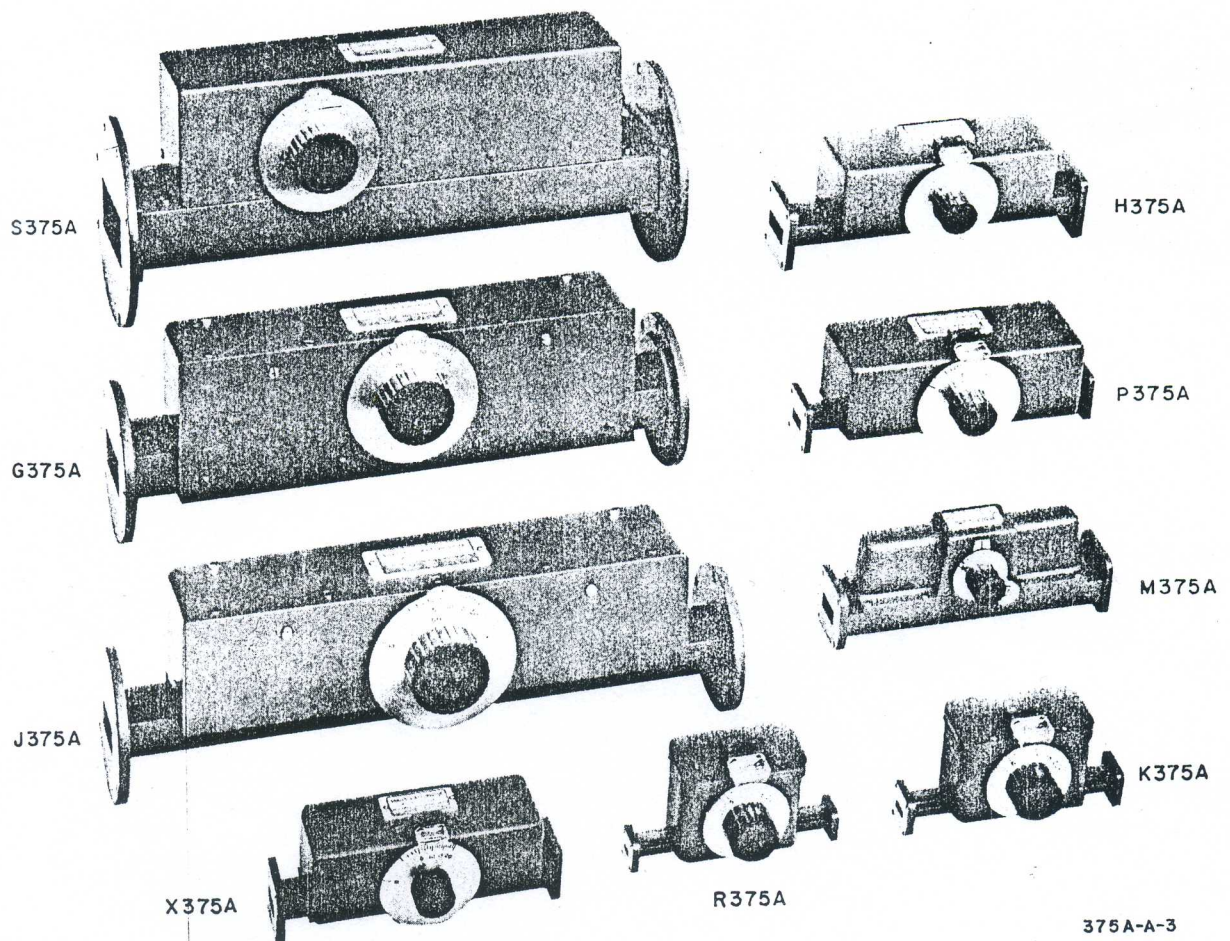

Figure 1. Model 375A Variable Attenuators
2. The 375A series Variable Attenuators (Figure 1) permits adjustment of power level in a waveguide system or provides isolation between source and load. The Model 375A series covers the frequency range from 2.6 to 40 Gc (S through R bands). Attenuation is continuously variable from 0 to 20 db. For the Model 375A series, SWR is less than 1.15 over the waveguide frequency band.